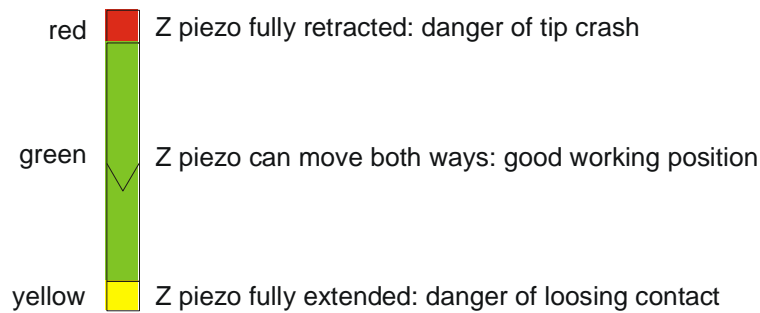

Figure 28. The software Z-meter display.
6. Stop this process when the green tip shape has reached a nearly central position between yellow and red, see figure 28.